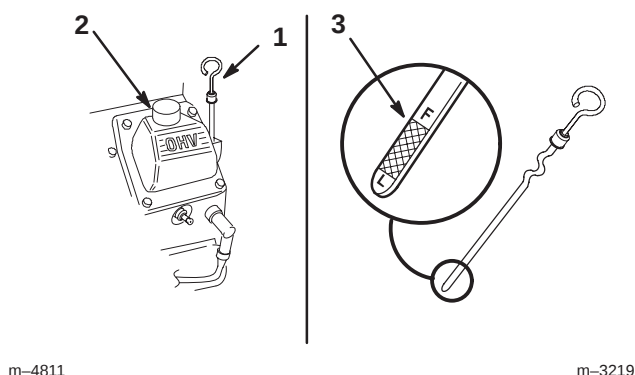

Figure 31
2. Clean around the oil dipstick (Fig. 31) so dirt cannot fall into the filler hole and damage the engine.
3. Pull the oil dipstick and wipe the metal end clean (Fig. 31).
4. Slide the oil dipstick fully into the filler tube. Pull the dipstick out and look at the metal end (Fig. 31). If oil level is low, slowly pour only enough oil into the filler tube to raise the level to the full mark.
5. Slowly pour approximately 80% of the specified oil, on page 30, into the filler cap (Fig. 31). Now check the oil level; refer to Checking Oil Level, page 30. Slowly add additional oil to bring it to the full mark.